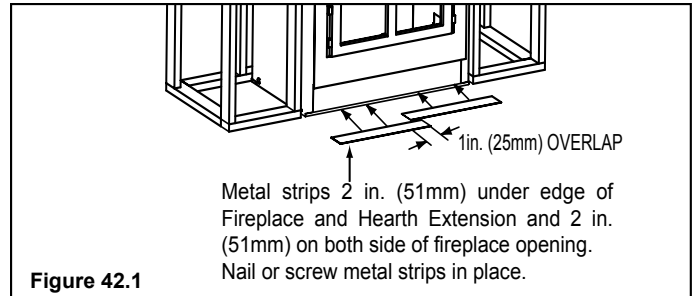

Figure 42.1
1. Secure the fireplace to the floor or wall framing studs at a minimum of two attachment points to prevent further movement of the fireplace. The same holes and L brackets that attached the fireplace to the pallet may be used to secure the fireplace to the sub flooring by using a minimum of two 1/4 in. x 2 in. lag bolts or equivalent. Refer to Figure 42.1 and install the two metal hearth strips at this time.